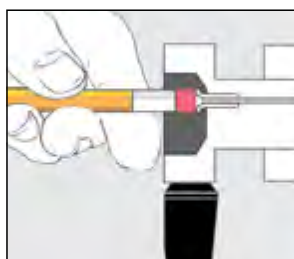

Figure 1 To reform the needle seal, push the eraser end of a pencil against the needle port
- 1 If fluid leaks out of the needle port only while loading the loop (i.e., while pushing down on the plunger of the syringe), the problem is most likely that the needle seal or the needle port fitting in the loop filler port is not gripping the syringe needle tightly enough. Tighten the needle seal grip by pushing with the eraser end of a pencil on the needle port (See Figure 1). The tightening reduces the hole diameter of the needle seal and port fitting.